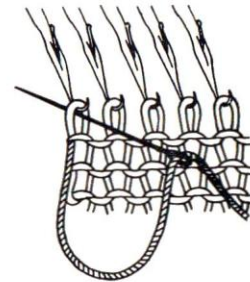

Fig. 57
- 1) Thread the needle with yarn three times the length of the garment to be bound off. Insert the needle into the first stitch as shown in Fig. 57.